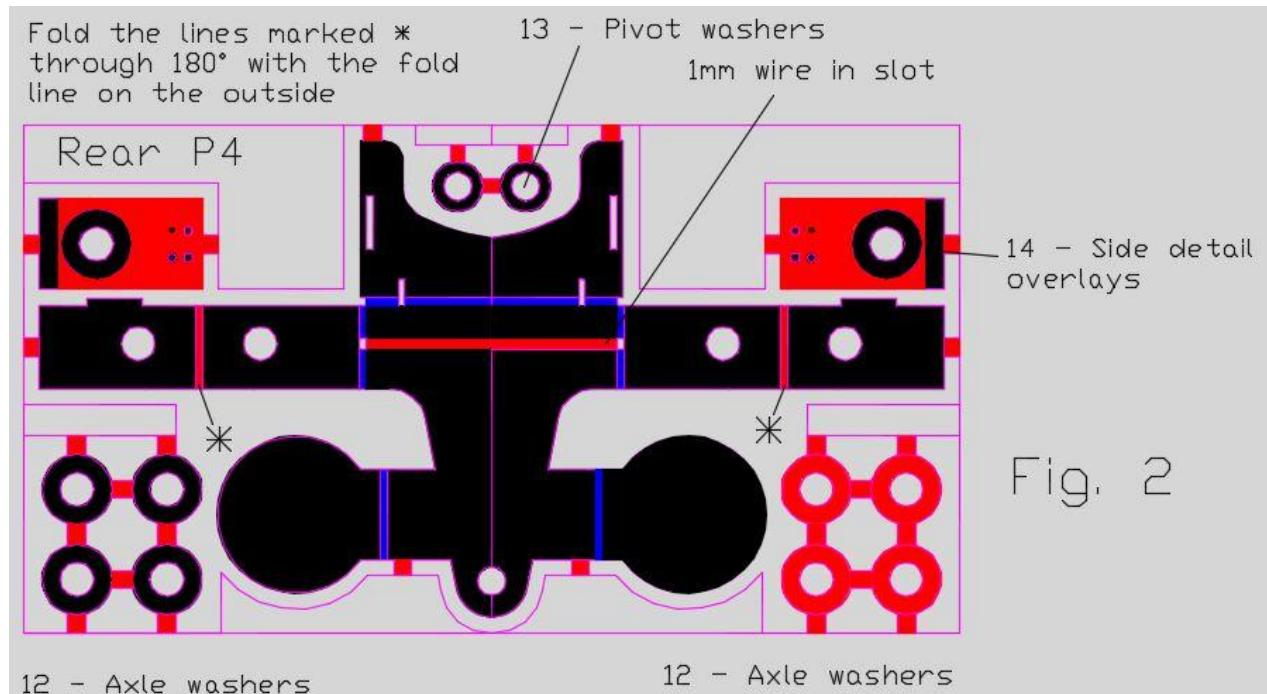

Fig. 2
8 – The pony trucks (10A/B and 11A/B) can now be folded up. See Fig. 2. Note that the fold lines marked * are through 180° with the fold line on the outside. Solder everything together fitting the pony truck side detail overlays (14) and also a length of 1mm wire into the slot on the top of the pony truck. This will act as a bearer against the CSB spring wire.